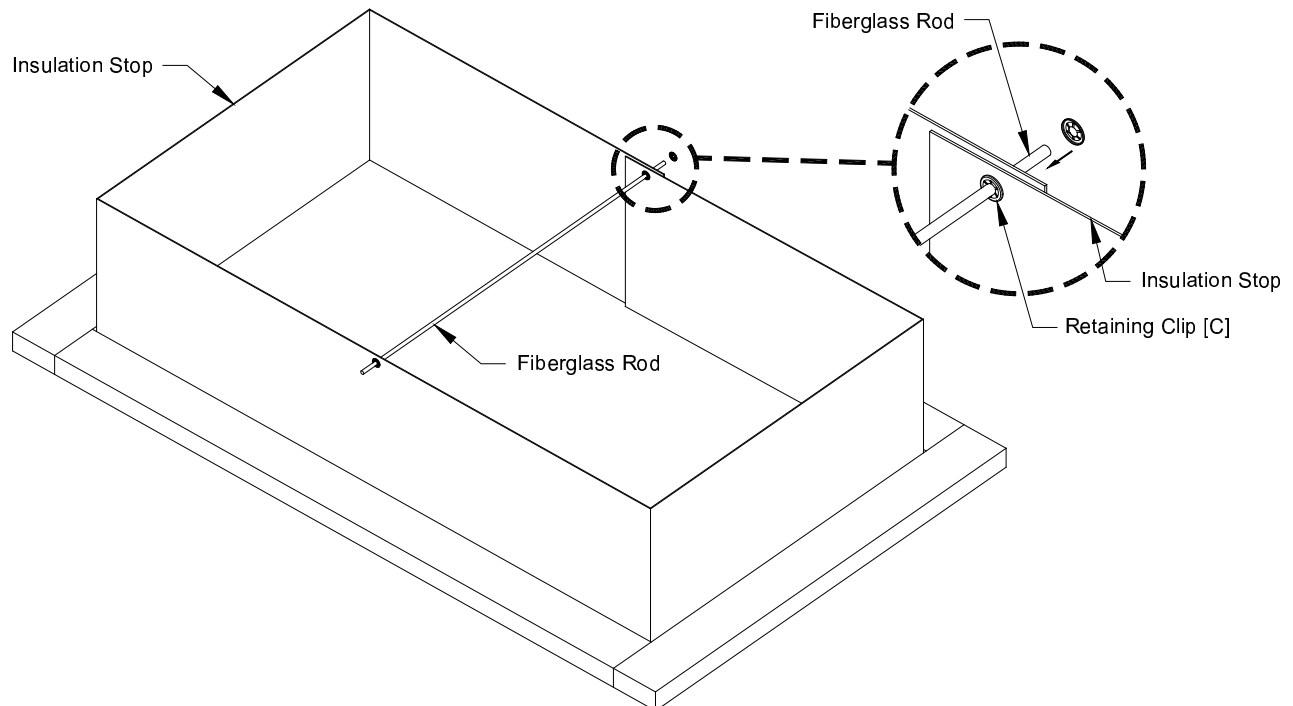

Figure 3D
Install (1) Retaining Clip [C] on each end of Fiberglass Rod. The Retaining Clip should be $1\frac{1}{2}$ " from end of rod. Insert one end of rod through the new hole in Insulation Stop from inside out. Insert other end of rod through hole in opposite side of Insulation Stop. Secure Rod in place with a Retaining Clip [C] on each end of Rod, so that Insulation Stop is between 2 of the clips. See Figure 3D.